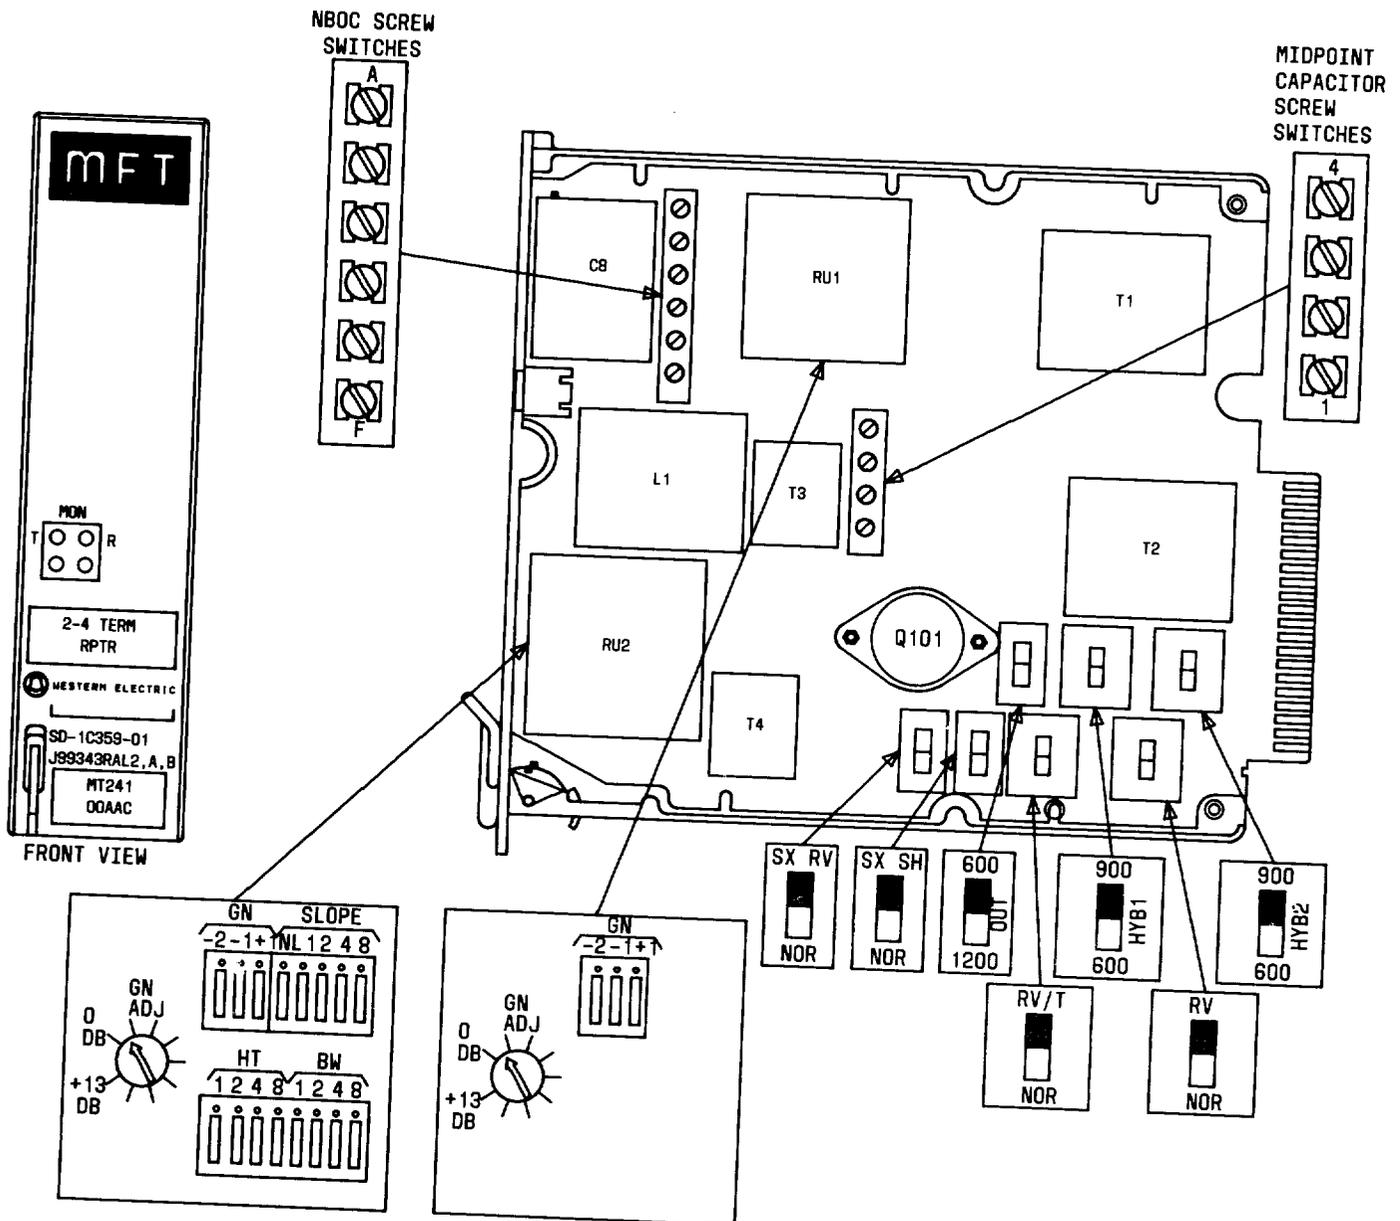
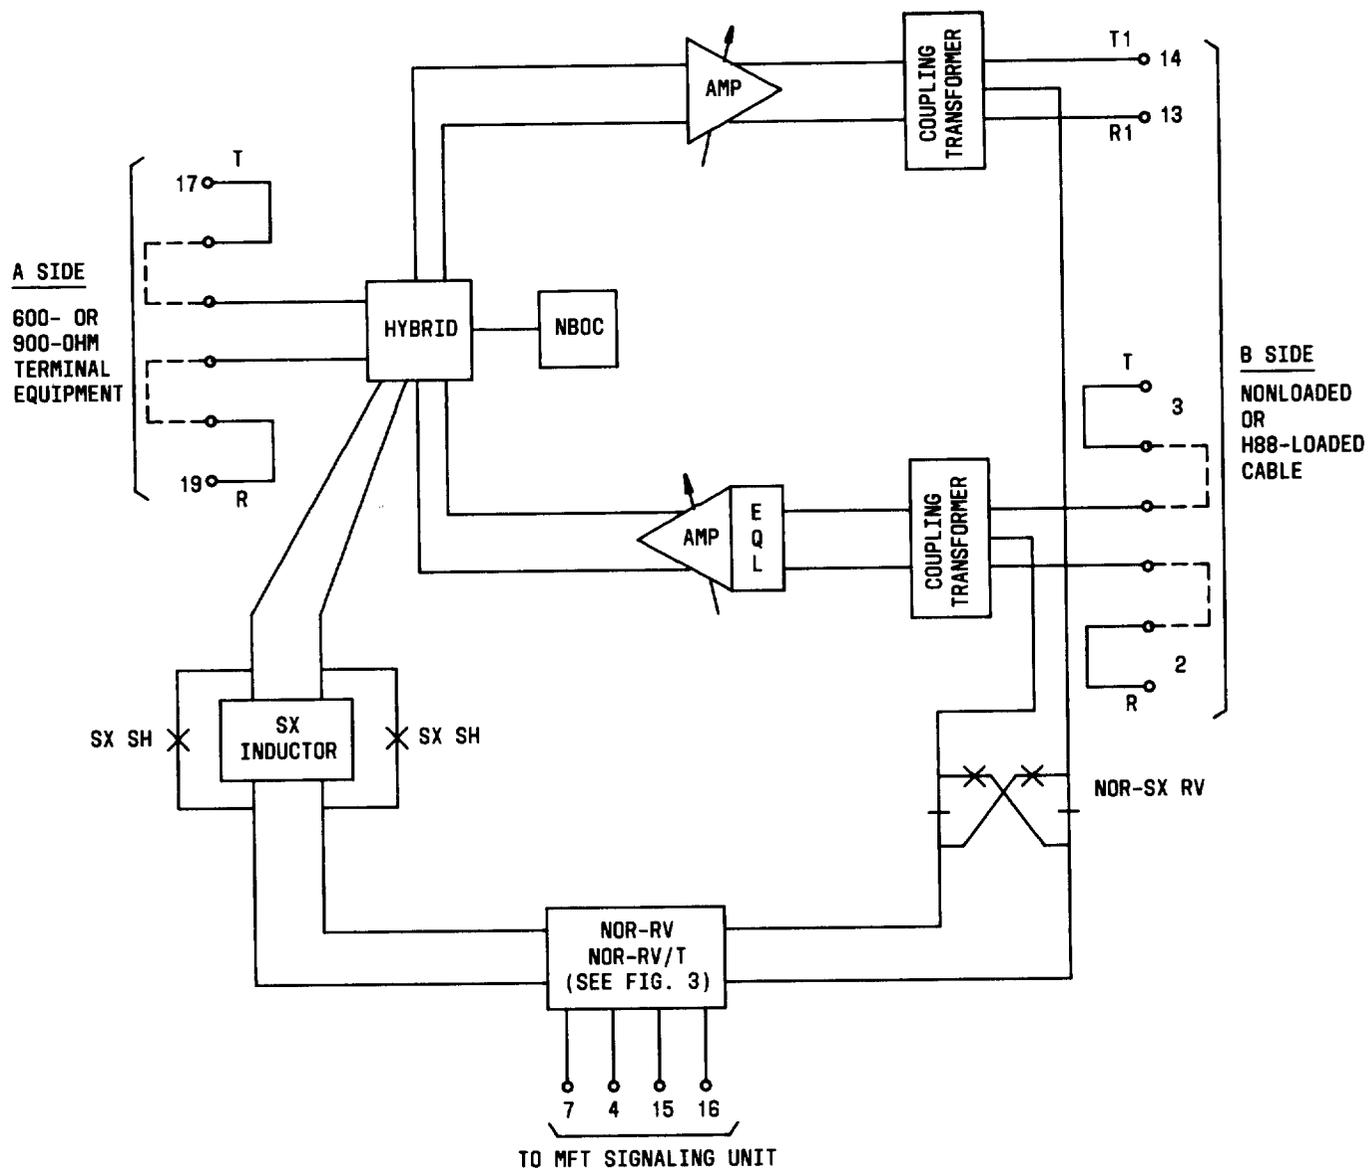
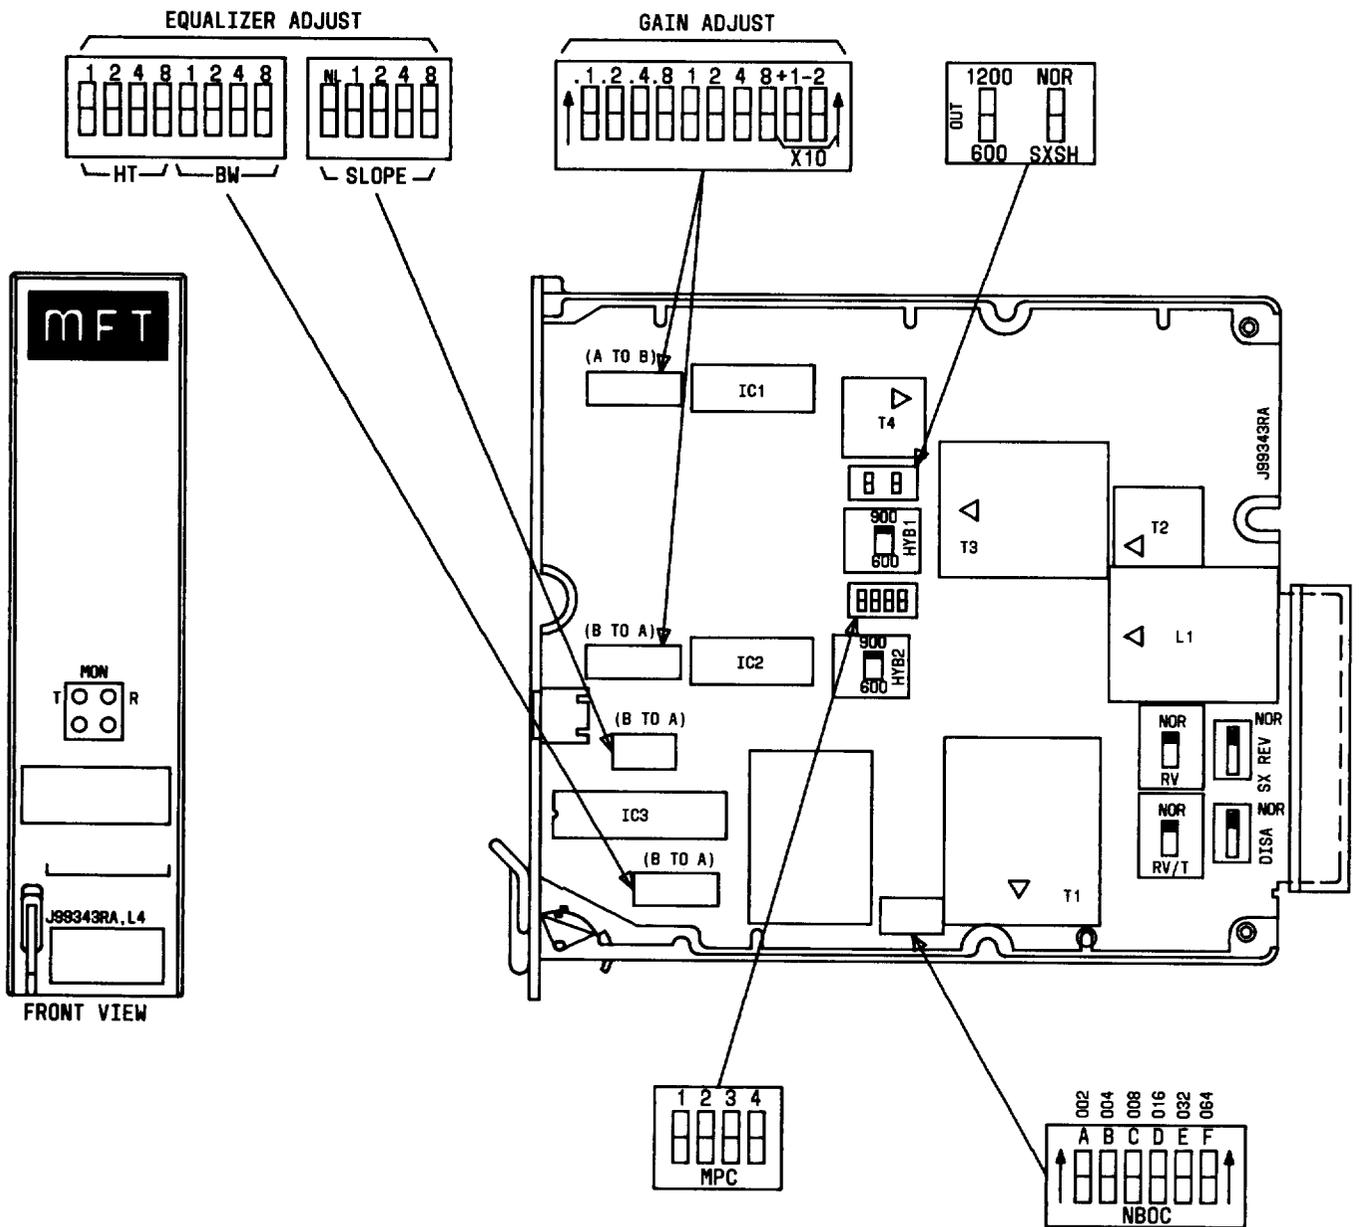

Fig. 1—J99343RA, List 1, 2, and 3 Repeater
Fig. 2—Block Diagram of J99343RA
Fig. 4—J99343RA, List 4 Repeater
2.01 The J99343RA, Lists 1, 2 and 3, are shown in Fig. 1. They provide gain between loaded or nonloaded 4-wire facilities and 600- or 900-ohm 2-wire terminal equipment. Equalization is provided in the B-to-A direction of transmission. Figure 2 is a block diagram of the J99343RA units.
ated when depressed toward the respective designation. The sum of the values of the switches operated is the setting for that function. The unit controls are illustrated in Fig. 1.
3.01 The J99343RA, List 4 is shown in Fig. 4. It provides gain between loaded or nonloaded 4-wire facilities and 600- or 900-ohm 2-wire terminal equipment. Equalization is provided in the B-to-A direction of transmission. Figure 2 is a block diagram of this unit.
3.09 In the following paragraphs, the rocker-type switches for a particular function are operated when depressed toward the respective designation. The sum of the values of the switches operated is the setting for that function. The unit controls are illustrated in Fig. 4.